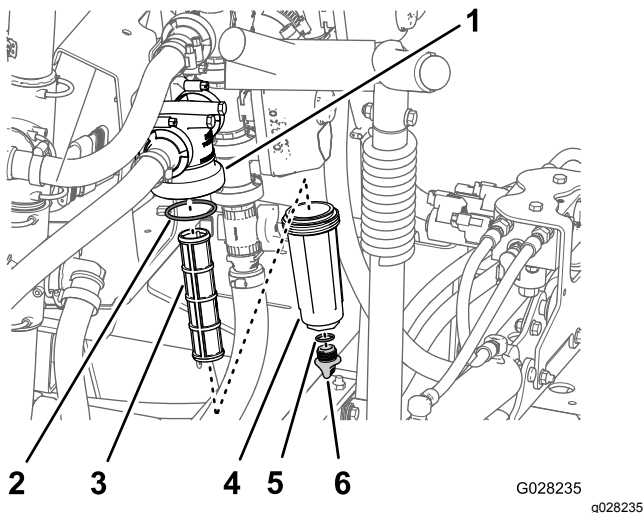

Figure 90
2. Align a drain pan under the pressure filter (Figure 90).
3. Rotate the drain plug counterclockwise and remove it from the bowl of the pressure filter (Figure 90).
4. Rotate the bowl counterclockwise and remove it from its filter head (Figure 90).
5. Remove the old pressure-filter element (Figure 90).
6. Check the O-ring for the drain plug (located inside the bowl) and the O-ring for the bowl (located inside the filter head) for damage and wear (Figure 90).
7. Install the new pressure-filter element into the filter head (Figure 90).
8. Install the bowl onto the filter head hand tight (Figure 90).
9. Install the plug into the bowl hand tight (Figure 90).